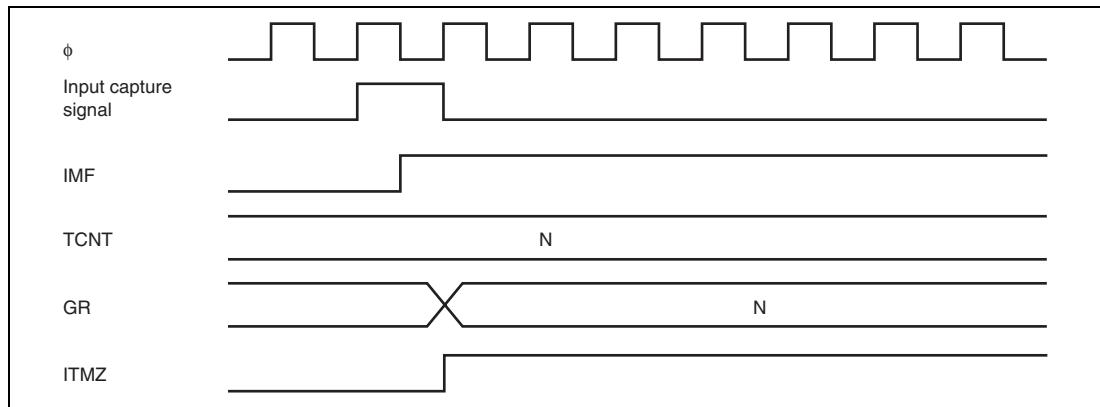

Figure 12.49 IMF Flag Set Timing at Input Capture
2. IMF Flag Set Timing at Input Capture: When an input capture signal is generated, the IMF flag is set to 1 and the value of TCNT is simultaneously transferred to corresponding GR. Figure 12.49 shows the timing.